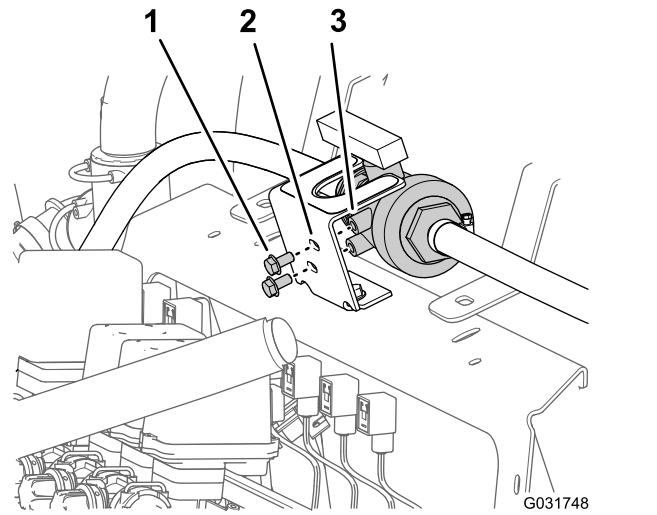

Figure 37
3. Remove the 2 flange-head bolts (5/16 x 5/8 inch) that secure the ball valve to the mounting bracket for the ball valve (Figure 37).